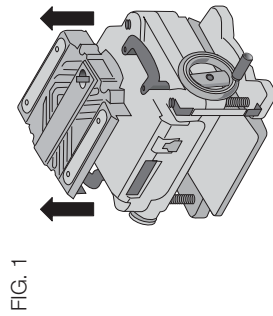

FIG. 1
2. Lift the top off (Fig. 1) and place it aside.